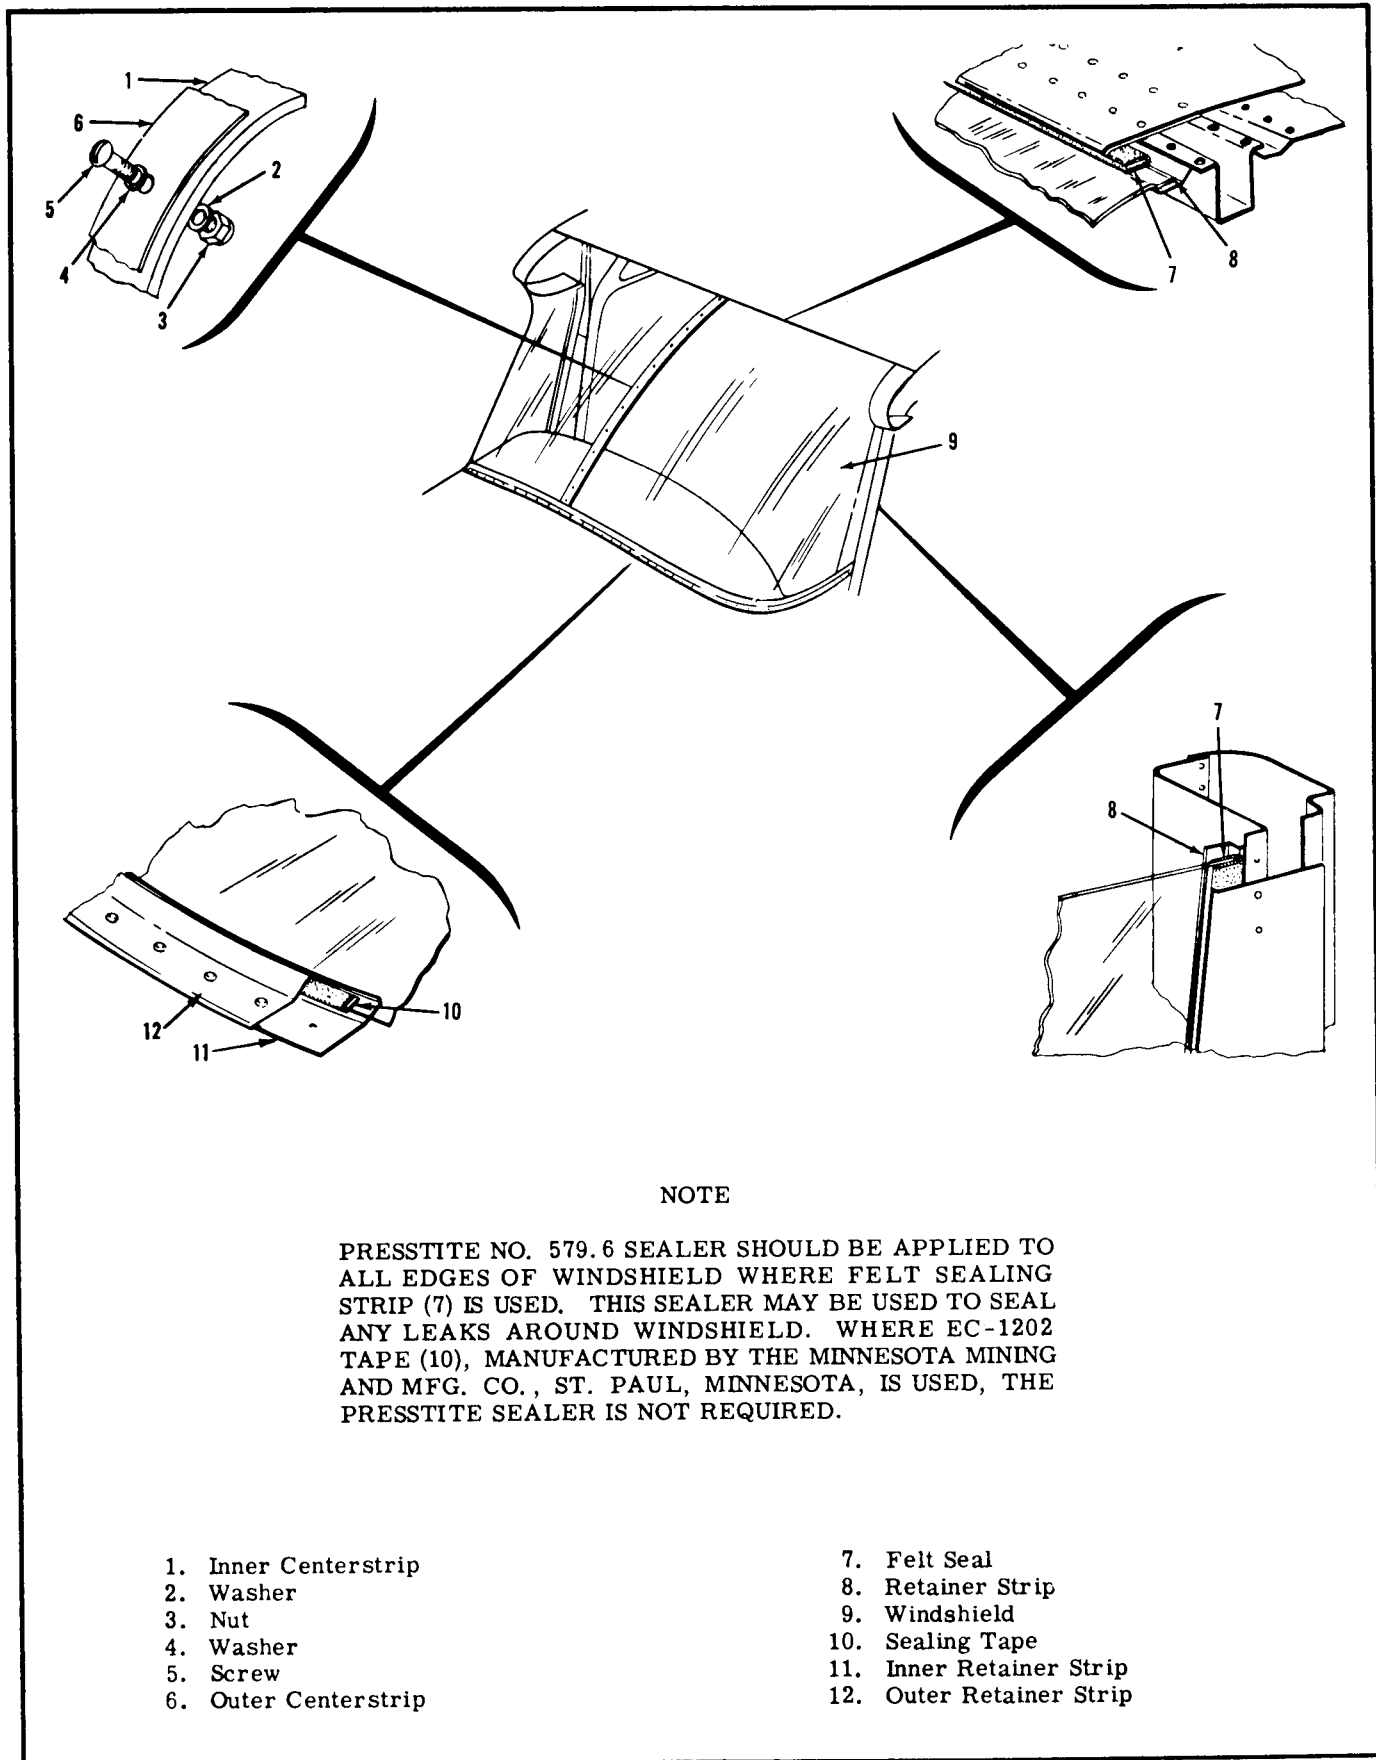

Figure 3-2. Typical Windshield Installation
**3-7. WINDSHIELDS.** (See figure 3-2.) Windshields are single-piece, "free-blown" acrylic plastic panels set in sealing strips and held by formed retainer strips riveted to the fuselage. In all aircraft except the 150 series, a windshield centerstrip supports the center of the windshield. Various sealants have been used to prevent leakage around the windshield. However, Presstite No. 579.6 sealing compound used in conjunction with a felt strip at the top and sides, and EC-1202 tape (manufactured by the Minnesota Mining and Mfg. Co., St. Paul, Minnesota) used at the bottom of the windshield will give satisfactory results. If desired, the EC-1202 tape, which is available in different widths and thicknesses, can be used as a sealant at all edges of the windshield.